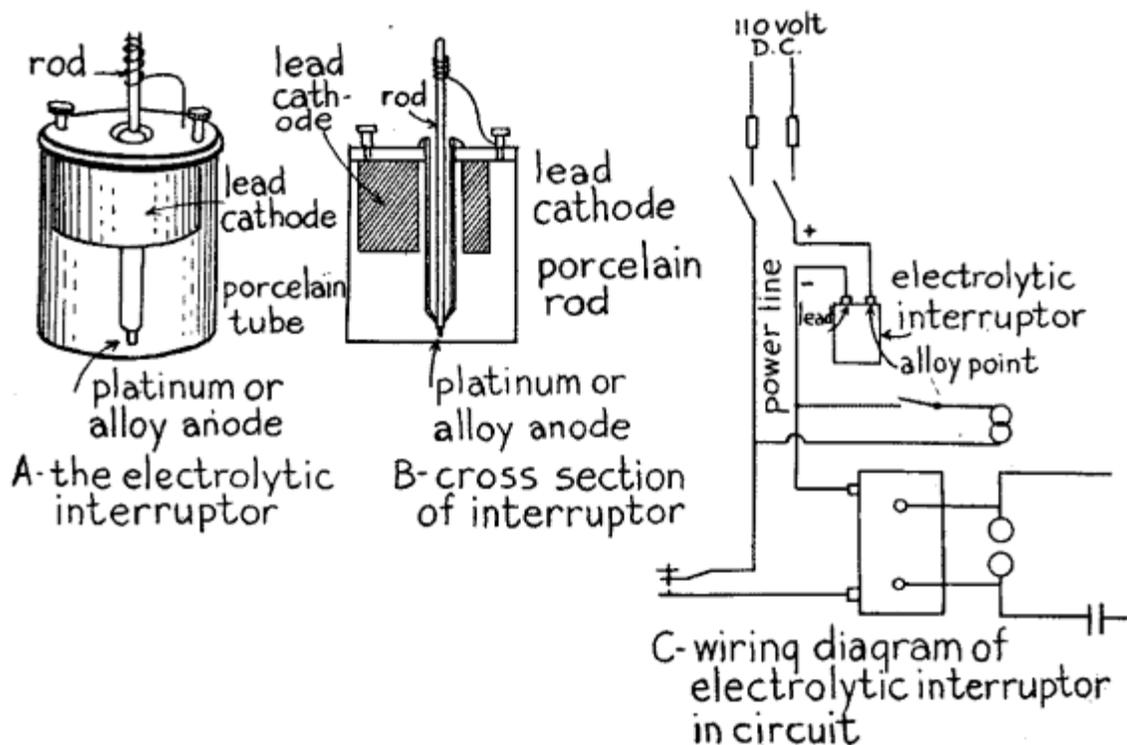

FIG. 23.—Using 110 Volt Direct Current with an Alternating Current Transformer.
For Direct Current.—Where you have 110 volt direct current you must connect in an electrolytic interrupter. This interrupter, which is shown at *A* and *B* in *Fig. 23*, consists of (1) a jar filled with a solution of 1 part of sulphuric acid and 9 parts of water, (2) a lead electrode having a large surface fastened to the cover of surface that sets in a porcelain sleeve and whose end rests on the bottom of the jar.